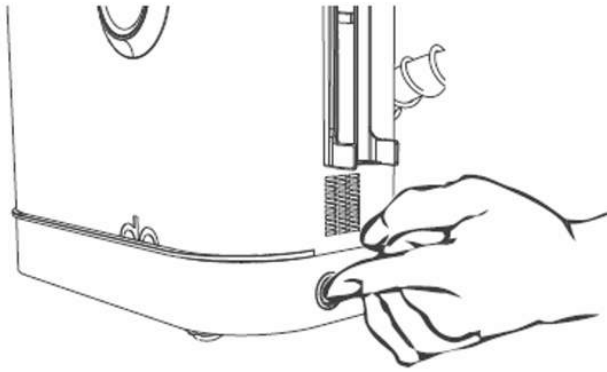

Fig. 11
- (1) It is normal that a little bit of water sprays out before releasing steam.
- (2) It is normal that the stopping of water-spraying or steam-releasing will delay after the water spray/steam button is released.
- (3) To avoid dangerous situations, do not remove the brush head/make any changes to the brush head when the spot cleaner is on. To do this, first switch off the cleaner and remove the plug from the socket.
9. After you finish working with the spot cleaner, press the switch button on the handle of the brush to exit from the working status, and then press the power switch to turn off the appliance (see Fig.11).